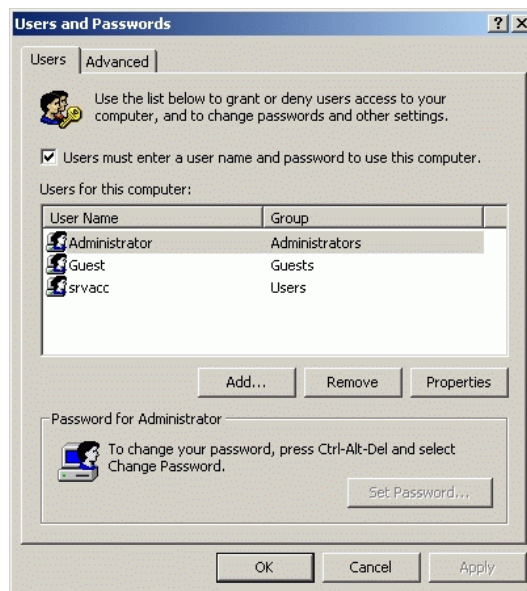

Figure 2-57 Users and Passwords Dialog Box
2. Double-click the *Users and Passwords* icon. The *Users and Passwords* dialog box displays (Figure 2-57).